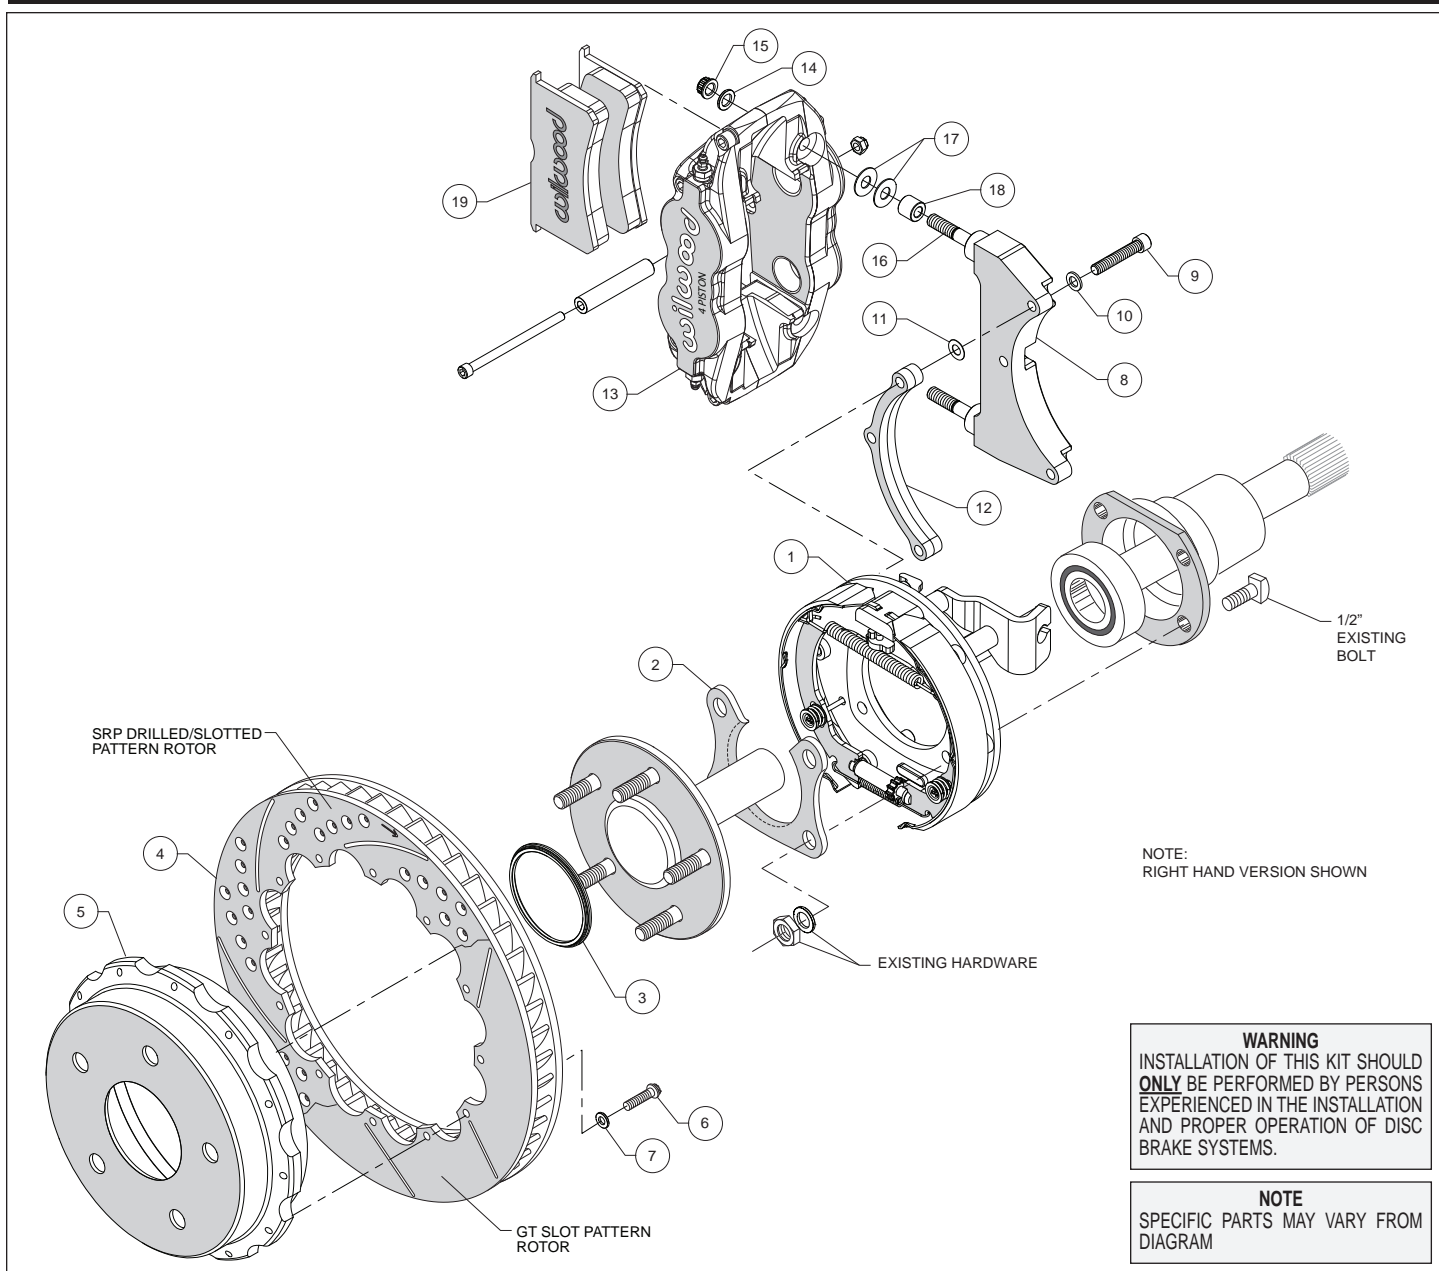
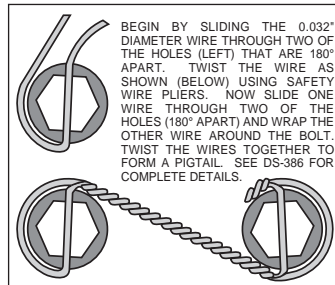

Figure 1. Typical Installation Configuration
Figure 5. Safety Wire Diagram
Assembly Instructions (numbers in parenthesis refer to the parts list, and Figure 1 on the preceding pages): **CAUTION:** All mounting bolts must fully engage clinch nuts. Be sure to check that all bolts are either flush or protruding through flanged side of clinch nut after shimming.
- Orient the bracket assembly (1) as shown in Figure 1 and Photo 1 and slide it onto the axle. Insert the axle and bracket into the axle housing. Ensure that the bracket assembly backing plate fits flush against the axle housing flange.
- Install the bearing retainer (2) with the opening pointing upward and the lip facing inward (toward the bearing), as shown in Figures 1 and 4, and Photo 2. Secure retainer and bracket assembly to the axle housing flange using the Original Equipment Manufacturer (OEM) bolts, washers, and nuts, Figure 1. Apply red *Loctite*® 271 to the OEM bolt threads and torque to OEM specifications.
•**NOTE:** Please reference the caution statement at the beginning of the assembly instructions. The caliper mounting bracket (8) should initially be installed with clean, dry threads on the mounting bolts. Orient the bracket as shown in Figure 1 and Photo 3, and install using bolts (9) and flat washers (10). Initially place one .015" shim washer (11) on each bolt between the bracket (8) and spacer (12), Figure 1. Temporarily tighten the mounting bolts. **NOTE:** End of bolt should not exceed inside face of insert. The bracket must tighten squarely against the back side of the bracket kit assembly (1). Inspect for interference from casting irregularities, machining ridges, burrs, etc. Later, after the caliper alignment has been checked, the mount bolts will be secured using red *Loctite*[®].
•Orient the rotor (4) and the hat (5) as shown in Figure 1 and Photo 3. Attach rotor to hat using bolts (6) and washers (7). Using an alternating sequence, apply red *Loctite*[®] 271 to the threads, and torque to 140 **in-lbs**. For an added measure of security, the bolts may be safety wired using standard 0.032 inch diameter stainless steel safety wire as shown in Figure 5. Please refer to Wilwood's data sheet DS-386 (available at www.wilwood.com/Pdf/DataSheets/ds386.pdf) for complete safety wire installation instructions.
•Slide the rotor registration adapter (3) onto the axle register on the axle flange with the smaller O.D. facing toward the rotor/hat (4/5), Photo 5. Align the hole pattern in the hat with the stud pattern on the axle flange and slide into place, Figure 1 and Photo 6. **NOTE:** The rotor/hat must fit flush against the axle flange or excessive rotor run out may result. Install three lug nuts (finger tight) to keep the rotor/hat assembly in place while continuing with the installation. **NOTE:** Some OEM and after market axles come with stud sizes larger than 0.50" diameter. Verify stud size and have a qualified machine shop drill the bolt circle of the hat/rotor to the correct stud size, if necessary.
•Lubricate the caliper mounting studs (16) with lightweight oil. Initially place two .035" thick shims (17) and spacer (18) on each stud as shown in Figure 1 and Photo 7. Mount the caliper (13) onto the bracket (8) using lock nuts (15) and washers (14), Figure 1. Temporarily tighten the lock nuts and view the rotor through the top opening of the caliper. The rotor should be centered in the caliper, Photo 8. If not, adjust by adding or subtracting shims (11) between the bracket (8) and the spacer (12). Always use the same amount of shims on each of the three mounting bolts. Once the caliper alignment is correct, remove the bracket mounting bolts (9) one at a time, apply red *Loctite*[®] 271 to the threads, and torque to 180 **in-lb**.